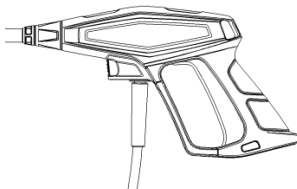

Figure 10
9. Release the trigger lock. See figure 10.